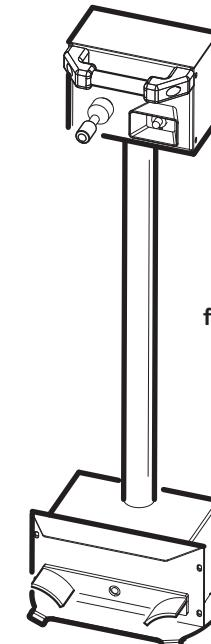

fig.3
**COMANDO MOBILE (Fig.3)**
**MOBILE CONTROL UNIT (Fig.3)**
**COMMANDE MOBILE (fig.3)**
**BEWEGLICHER STEUER-KNÜP-PEL (Abb.3)**
**MANDO MOVIL (fig. 3)**